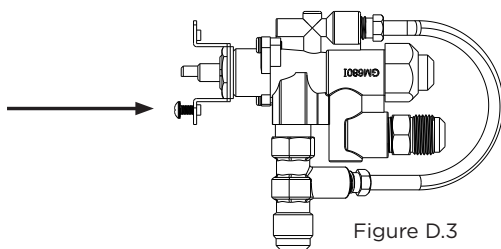

Figure D.3
7. Thread 1 burner screw a couple of threads into the bottom the burner control valve. See Figure D.3.